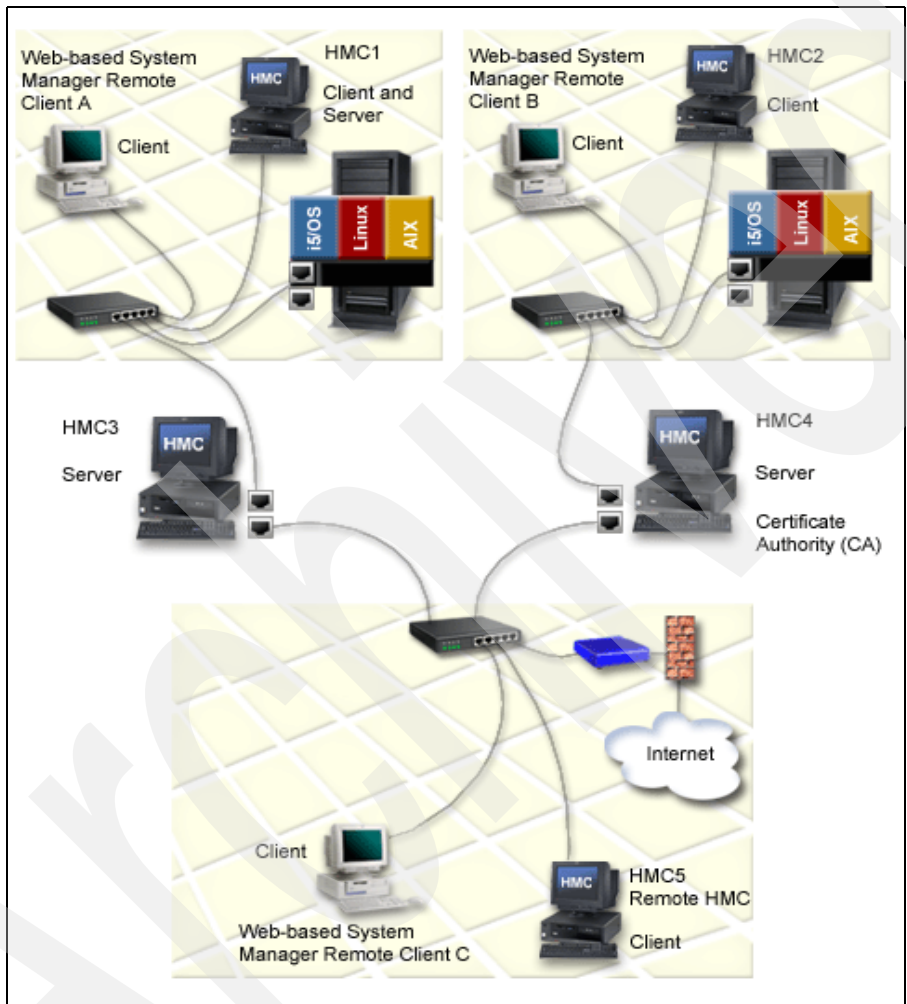

Figure 2-11 System manager security servers and clients
A Certificate Authority (CA) is a trusted central administrative entity (a local HMC in this situation) that can issue digital certificates to clients and servers (HMC4 in Figure 2-11). The trust in the CA is the foundation of trust in the certificate as a valid credential. A CA uses its private key to create a digital signature on the certificate that it issues to validate the certificate's origin. Others, such as System Manager clients, can use the CA certificate's public key to verify the authenticity of the certificates that the CA issues and signs.
A server is an HMC you want to access remotely. In Figure 2-11, HMCs 1, 3, and 4 are servers. A client is a system from which you want to access other HMCs remotely. In Figure 2-11, Web-based System Manager Remote Clients A, B, and C, and HMCs 1, 2, and 5 are clients. As shown in Figure 2-11, you can configure multiple servers and clients in your private and open networks.
An HMC can be in multiple roles simultaneously. For example, an HMC can be a client and a server like HMC1 in Figure 2-11. An HMC can also be a CA, server, and client at the same time.